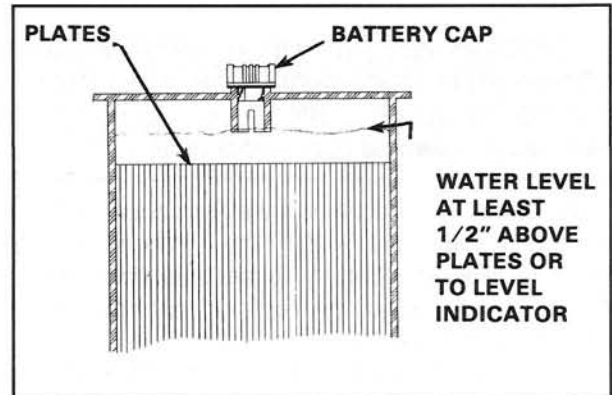

Figure 18
2. The water level in the batteries should be checked weekly. (See Figure 18 for proper level.) Add water only